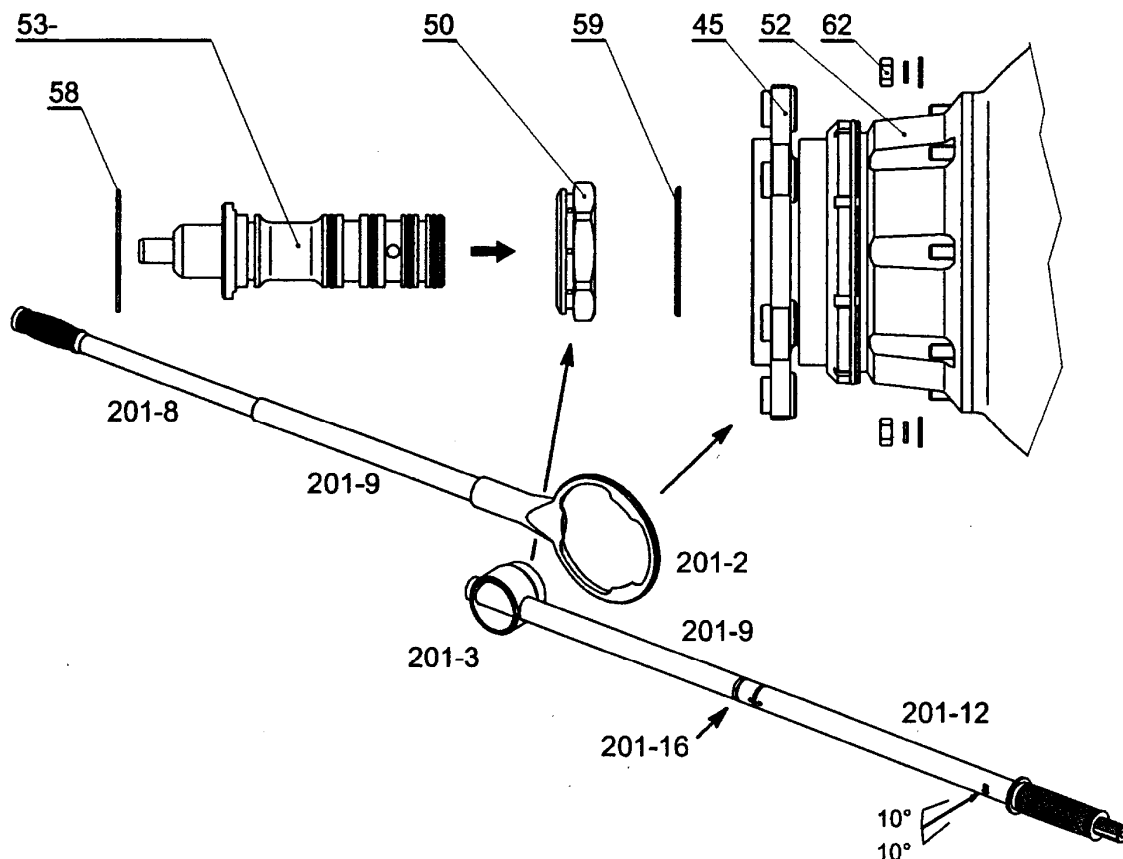

Fig.215 Distributor LUN 7902 installation
- (9) When tightening the nut (50) set on the flange of the rotor (45) wrench (201-2) with adjustable mounting tube(201-9), and mounting bar (201-8) in order to prevent the turning of the crankshaft on the engine (see fig.215)
- (10) Put the insertion (53) [218-6040– **blue-black or gray**] into the opening in the crankshaft. Secure the nut (30) against loosening by means of the wire safety piece (58). A nose of the safety piece must be inserted into the groove in the insertion (53). So it is secured against shifting out of the crankshaft.
- (11) After tightening of the flange of the rotor (45) shift the distributor casing (52) to the cover of the engine casing. Step by step set the washers, elastic pads, screw in the nuts (62) and tighten by wrench 10 mm from the engine tool assembly
- (12) Screw in the cap nuts of the tubes (60) in the fittings (61) of the high and low pitch .
- (13) Secure the sliding nuts (60) by means of the wire of diam. $\varnothing 0,8$ mm, in order to prevent the mutual loosening.
- (17) When tightening the nut (50) set on the flange (45) wrench (201-2) with mounting tube (201-9), and mounting rod (201-8) in order to prevent the turning of the crankshaft (see fig.215)
- (18) Put the insertion (53) [218-6040 – blue-black or gray] into the opening in the crankshaft. Secure the nut (50) against loosening by means of the safety wire (58). A nose of the safety piece must be inserted into the groove in the insertion (53). So it is secured against shifting out of the crankshaft.